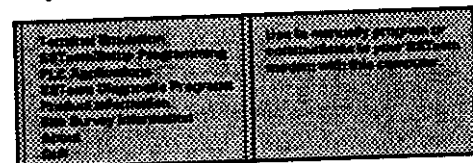

Figure 1: ESTeem Utility Main Menu
5. From Utility Main Menu (Figure 1) select the Terminal Emulation Mode.